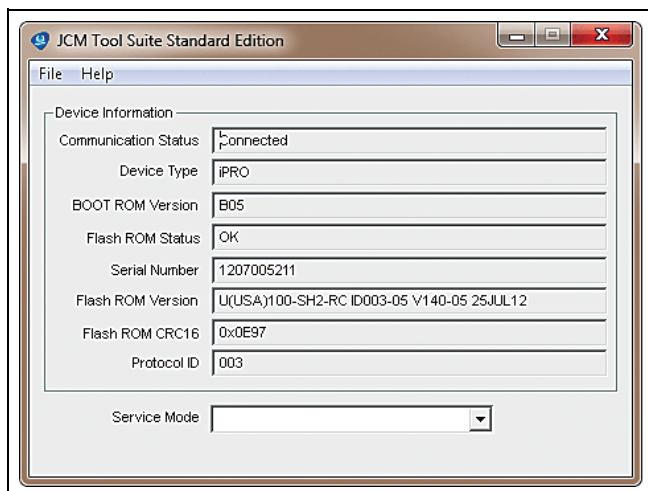

Figure 5 JCM Tool Suite Main Screen
Figure 5 illustrates the JCM Tool Suite Standard Edition's Main Screen.
Use a Standard USB Type-A to Mini-B Cable between the PC and the iPRO. Apply power to the iPRO, and open the JCM Tool Suite Application as shown in Figure 5.
3. Launch the “JCM Tool Suite Standard Edition” Software application, if it is not already running. The display will appear as shown in Figure 5.